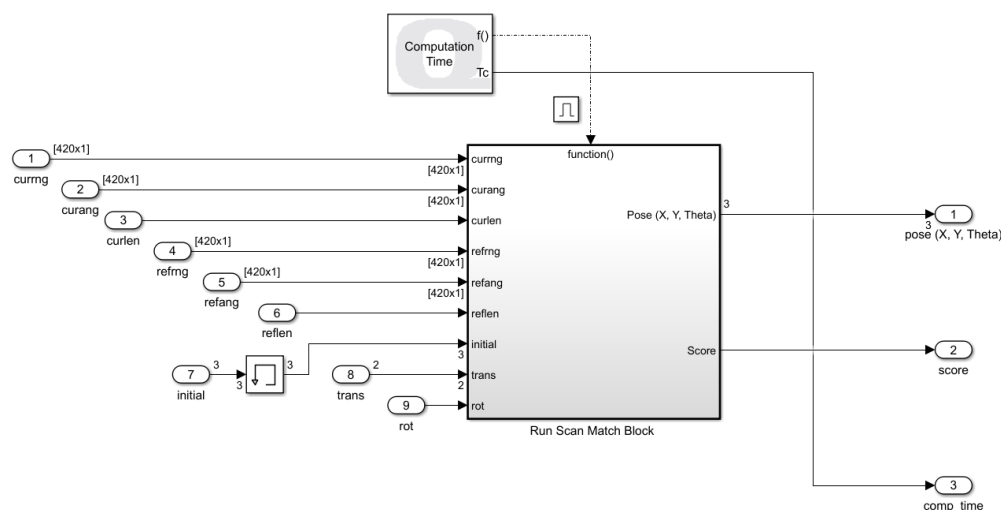

Figure 5. Inside of Run & Time Scan Match subsystem
4. Return to the **LiDAR & Localization** subsystem. Next, we will set up the inputs to the Scan Match block to estimate the position of the QBot using the subsampled LiDAR scan data. Open the **Run & Time Scan Match** subsystem. This subsystem runs and measures the computation time of the LIDAR Scan Match block using a function-call subsystem, shown in Figure 5 below.
13. Open Data Scopes within the **Data Display** subsystem, which opens three different plots. Drive the QBot around while observing these scopes. The Estimated Pose plot displays the x, y, and theta values of the current position estimate. Which axis corresponds to the forward movement direction of the QBot? The Score plot displays a non-normalized confidence for the match. The Timing scope displays sample and computation times for the model. The Scan Match Computation Time trace displays the output of the Computation Time block inside the Run and Time Scan Match subsystem (Figure 5). Stop the code using the Stop button under the Simulation Tab.